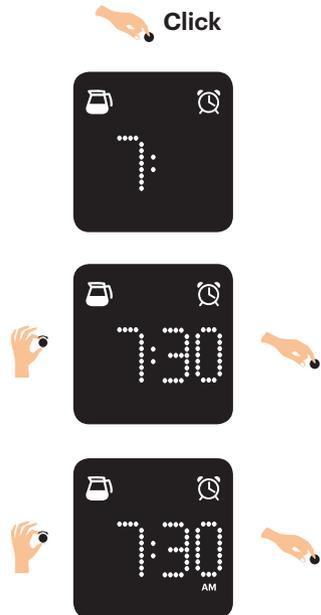

Fig. 3
2. If setting a timer is selected, the "Hour" on the clock will blink. Rotate the dial to set hour. Click the dial to confirm selection, as shown in Fig 3.
3. The "Minutes" on the clock will blink after hour selection. Rotate the dial to set minutes. Click the dial to confirm selection, as shown in Fig 3.
4. Press "Start/Pause" to finish setting the timer, as shown in Fig 3. Set time will appear on screen for 2 seconds and "Start/Pause" will remain lit to indicate that the brew cycle will start at the set time.